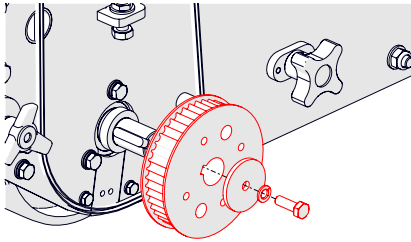

Fig. 25F - Remove roller pulley.
9. Remove the hex screw [13 mm spanner] and washers of the pulley, then remove pulley (Fig. 25F).